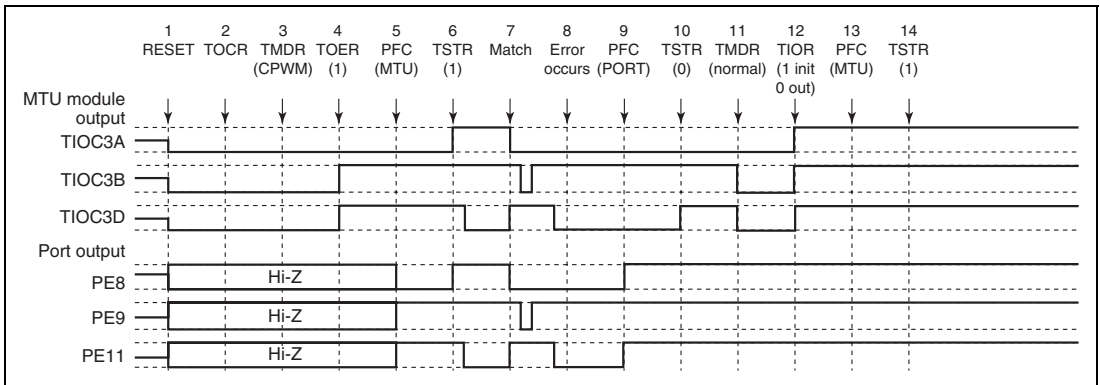

Figure 8.104 Error Occurrence in Complementary PWM Mode, Recovery in Normal Mode
(21) Operation when Error Occurs during Complementary PWM Mode Operation, and Operation is Restarted in Normal Mode: Figure 8.104 shows an explanatory diagram of the case where an error occurs in complementary PWM mode and operation is restarted in normal mode after re-setting.
1 to 10 are the same as in figure 8.104.